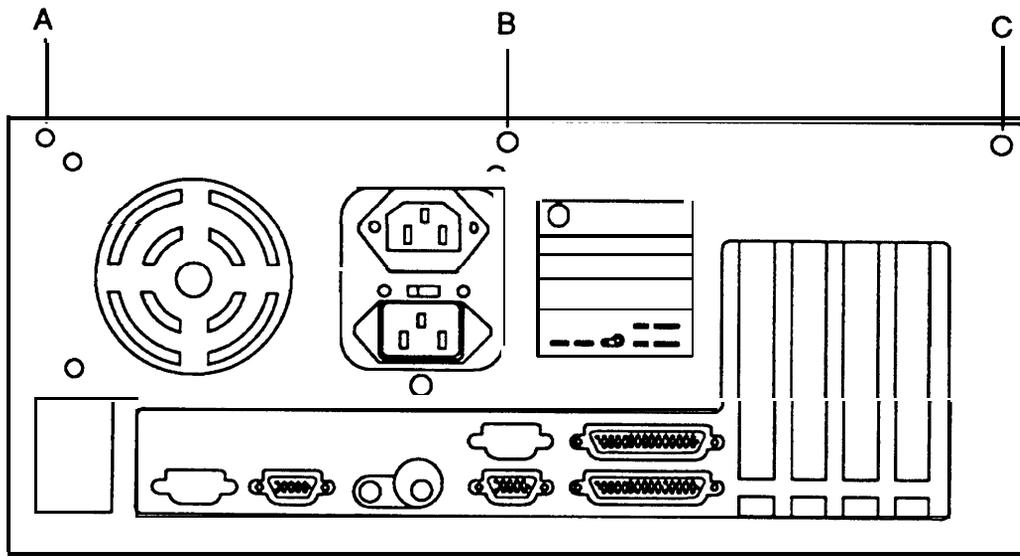

Figure 2-1. Master Controller II Main Cover-Securing Screws
3. Loosen the three main cover-securing screws (A, B, and C) on the back panel as shown in Figure 2-1.